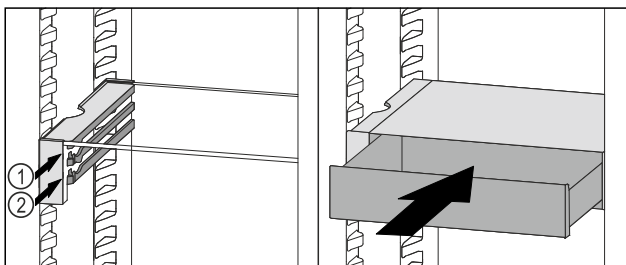

Fig. 121
- ▶ Place the VarioSafe drawer behind the stoppers on desired rib Fig. 121 (1) or Fig. 121 (2).